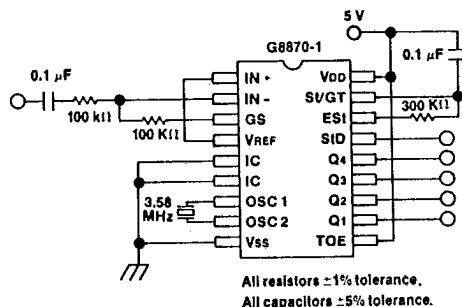

Figure 1. Single Ended Input Configuration Test Circuit
14. Referenced to Figure 1. Input DTMF tone level at -28 dBm.
The value of tDP is a parameter of the device and tREC is the minimum signal duration to be recognized by the receiver. A value for C of 0.1 uF is recommended for most applications, leaving R to be selected by the designer. For example, a suitable value of R for a tREC of 40 milliseconds would be 300K. A typical circuit using this steering configuration is shown in Figure 1. The timing requirements for most telecommunication applications are satisfied with this circuit. Different steering arrangements may be used to select independently the guard-times for tone-present (tGTP) and tone-absent (tGTA). This may be necessary to meet system specifications which place both accept and reject limits on both tone duration and interdigit pause.
In a single-ended configuration, the input pins are connected as shown in Figure 1 with the op-amp connected for unity gain and VREF biasing the input at 1/2VDD. Figure 6 shows the differential configuration, which permits the adjustment of gain with the feedback resistor Rs.